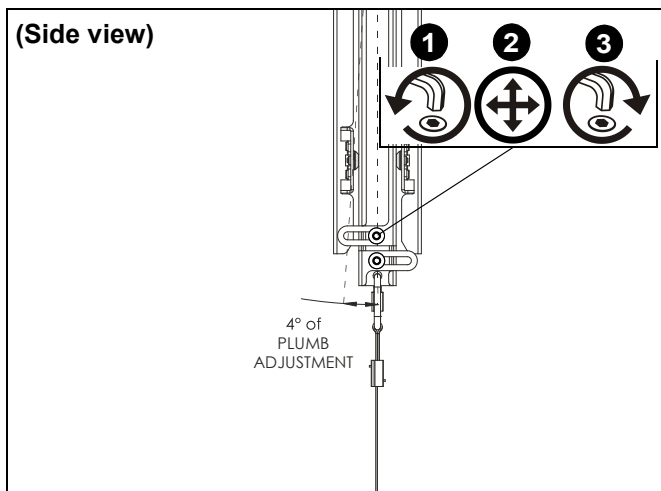

Figure 9
1. Loosen lower screws holding brackets together and adjust plumb (up to 4°) as necessary to ensure displays are perpendicular with the floor/ceiling. (See Figure 9)
2. Tighten lower screws holding brackets together when desired plumb is reached. (See Figure 9)